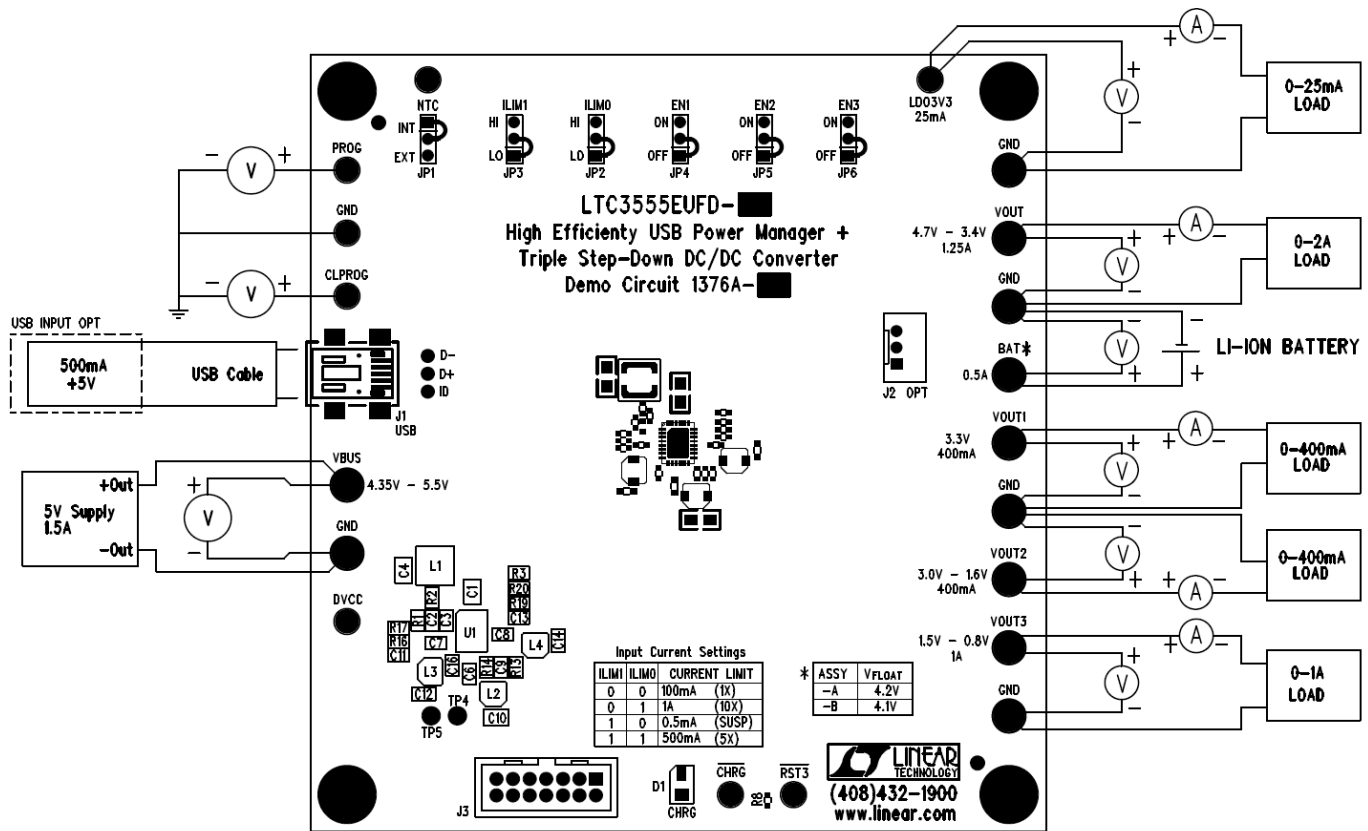

Figure 2. Proper Measurement Equipment Setup
Refer to Figure 2 for proper measurement equipment setup and follow the procedure below:
1. After following the software installation procedure in the DC590 Quick Start Guide, connect the DC1376A, the DC590 and the Host PC as shown in Figure 2.